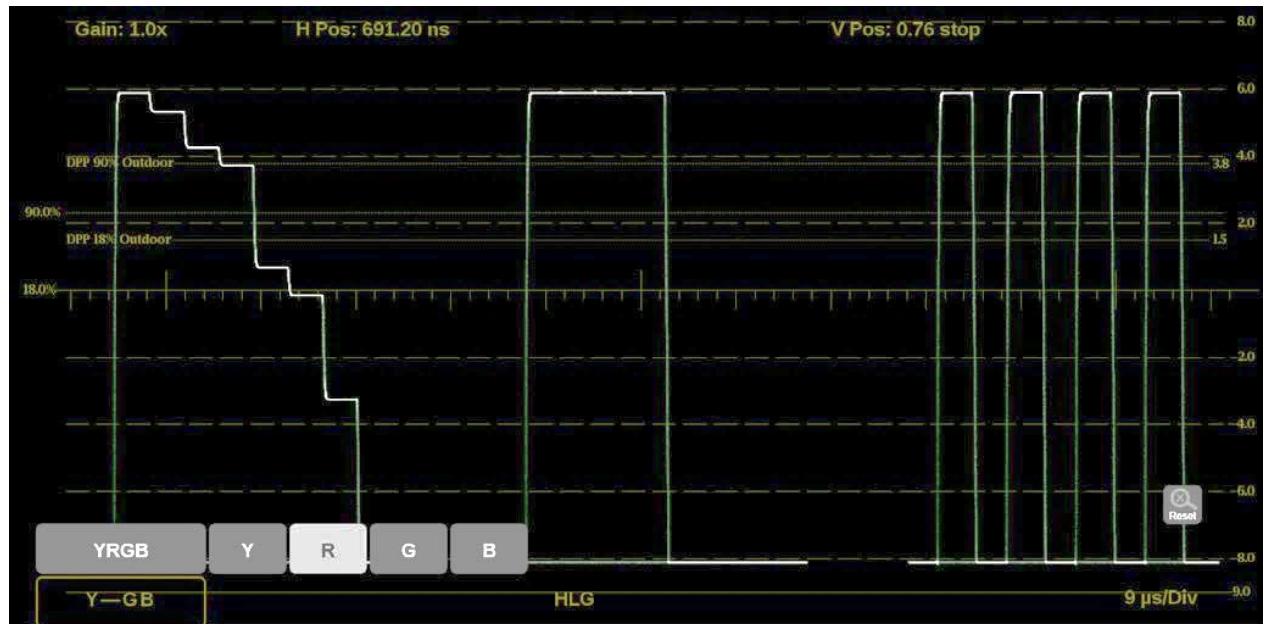

Figure 200: Stop Display on-screen tools – Display Mode
1. Select the button in the bottom left corner of the application to expand the available display options. (See Figure 200.)